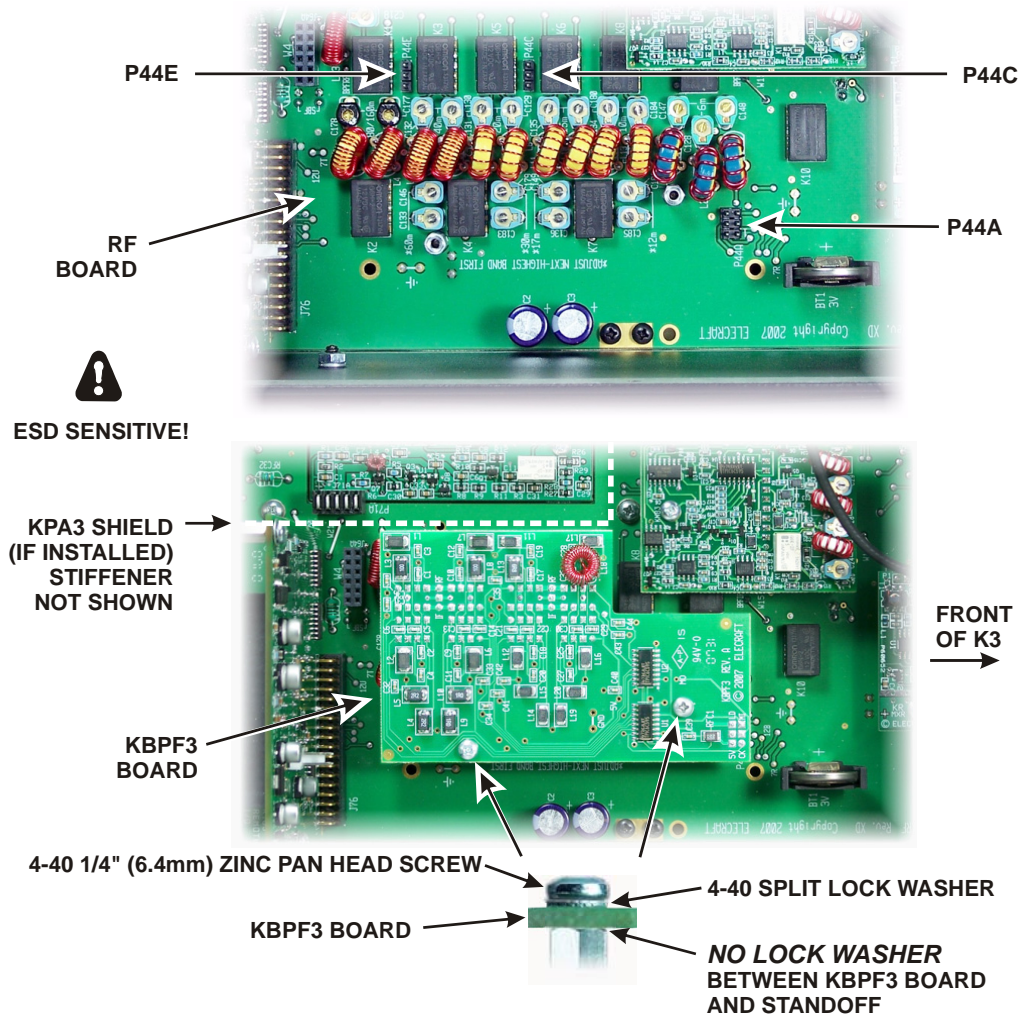

Figure 5. Mounting the KBPF3 Board.
There are three connectors on the bottom of the KBPF3 board that must be properly mated to P44A, P44C and P44E on the RF board (see Figure 5). Even though the connectors may be hard to see as they are mated, especially if the KPA3 shield is installed, they can be aligned as follows:
- Attach the KBPF3 board with a 4-40 1/4" (6.4 mm) zinc pan head screw and lock washer at each standoff as shown in Figure 5.